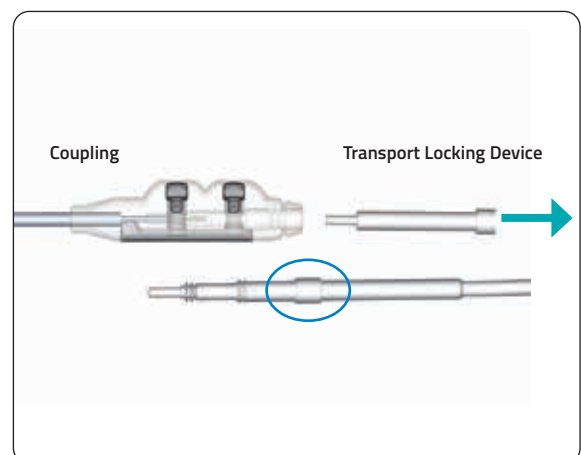

Fig. 62 Transport locking device removal
Remove the Transport Locking Device from the Receiver's Coupling, put a drop of sterile water on it and insert the plug of the cable. (Fig. 62)
**PRECAUTION:** Make sure the white ring (see blue circle in Fig. 62) is in connection with the start of the coupling.